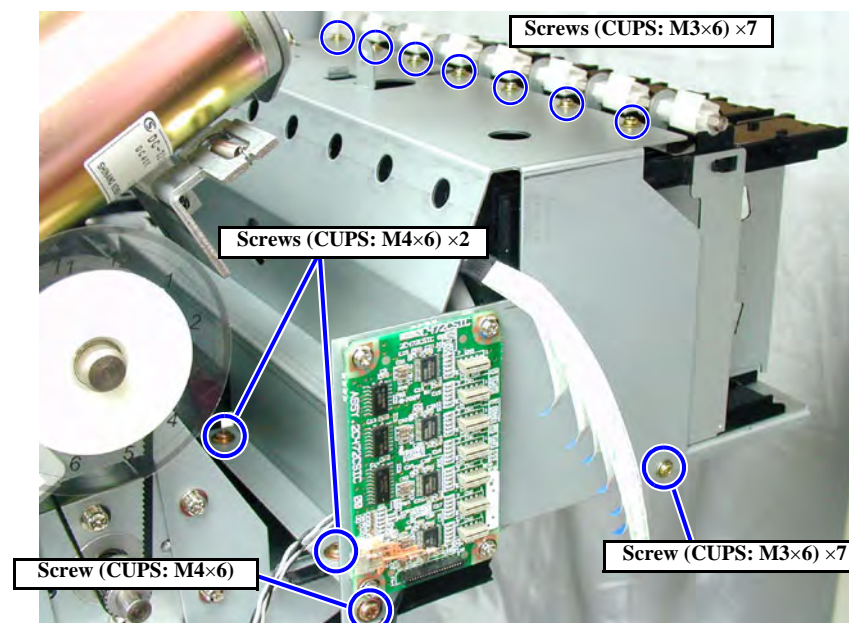

Figure 4-65. I/H Frame Removal 2/2
9. Remove one screw (CUPS: M3×6) and one screw (CUPS: M4×6) securing the I/H Frame on the left side. (See Figure 4-65)